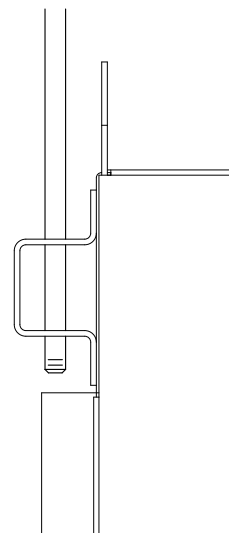

Figure 1
3. Use the brackets as shown in Figure 1 to secure the ERM. These brackets are designed for 3/8 in. threaded hanging rods.